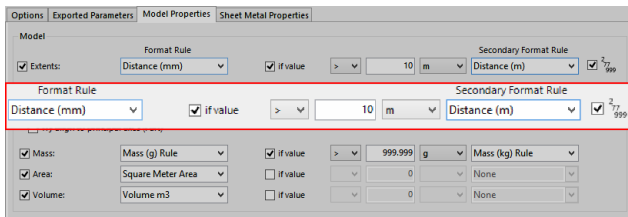

Figure 8: Exported Properties secondary format rule
- All exported properties now support an optional 2nd format rule. A single comparison operator provides the division of "primary" & "secondary" formatting. (Figure 8)